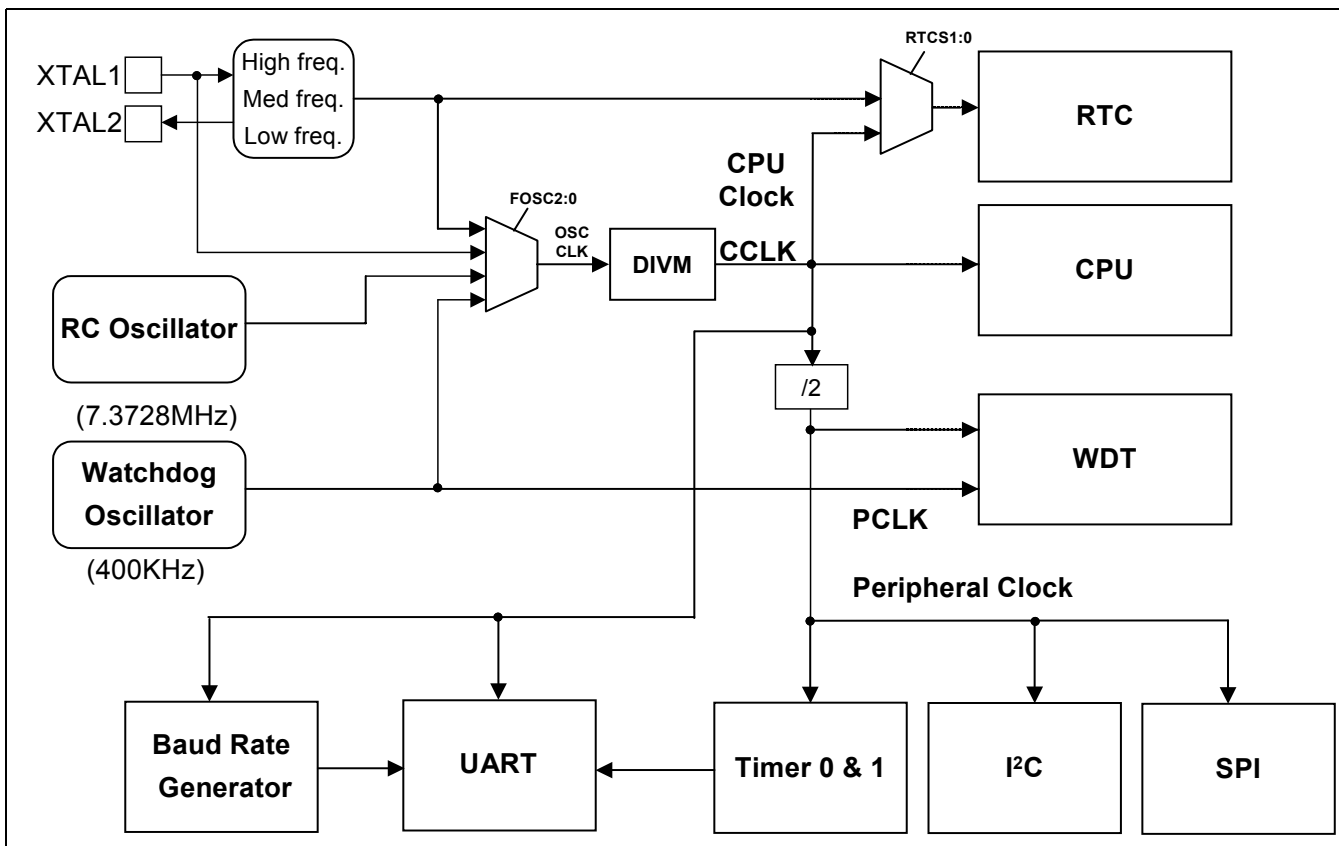

Figure 2-3: Block diagram of oscillator control
- OSCCLK - Input to the DIVM clock divider. OSCCLK is selected from one of four clock sources (see Figure 2-3) and can also be optionally divided to a slower frequency (see section "CPU Clock (CCLK) modification: DIVM register").